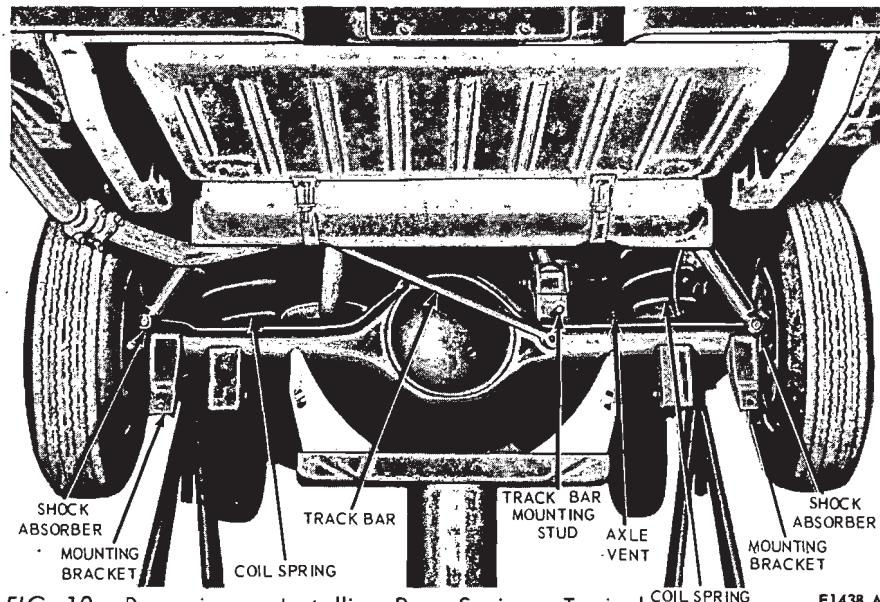

FIG. 10—Removing or Installing Rear Spring—Typical
(Fig. 10).
3. Remove the nut and washer attaching the track bar to the upper arm bracket and disengage the track bar from the mounting stud (Fig. 10).